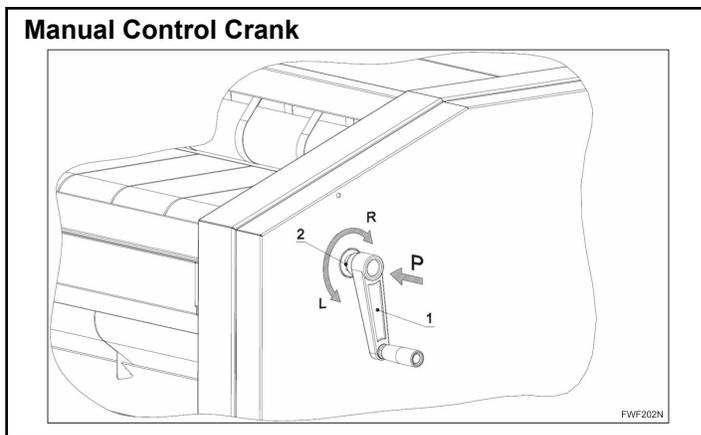

Figure 21
- The crank is installed in the machine so that it is not connected to the driving system of the machine. The crank is connected to the drive of the machine when it is pushed in the “P” direction directionrefer to *Figure 21* . The system is equipped with a one-way claw clutch.
- If disassembly of the right cover is necessary or if for any other operational reason it is necessary to remove the crank (1) from the machine, then remove the crank (1) by screwing it off in the direction (L) from the hub (2) while simultaneously securing the hub (2) against turning with an open-ended spanner HEX19.
- The crank (1) remains a part of the machine.
- The hand crank, *Figure 21* is a mechanical device intended for manual control of the machine.